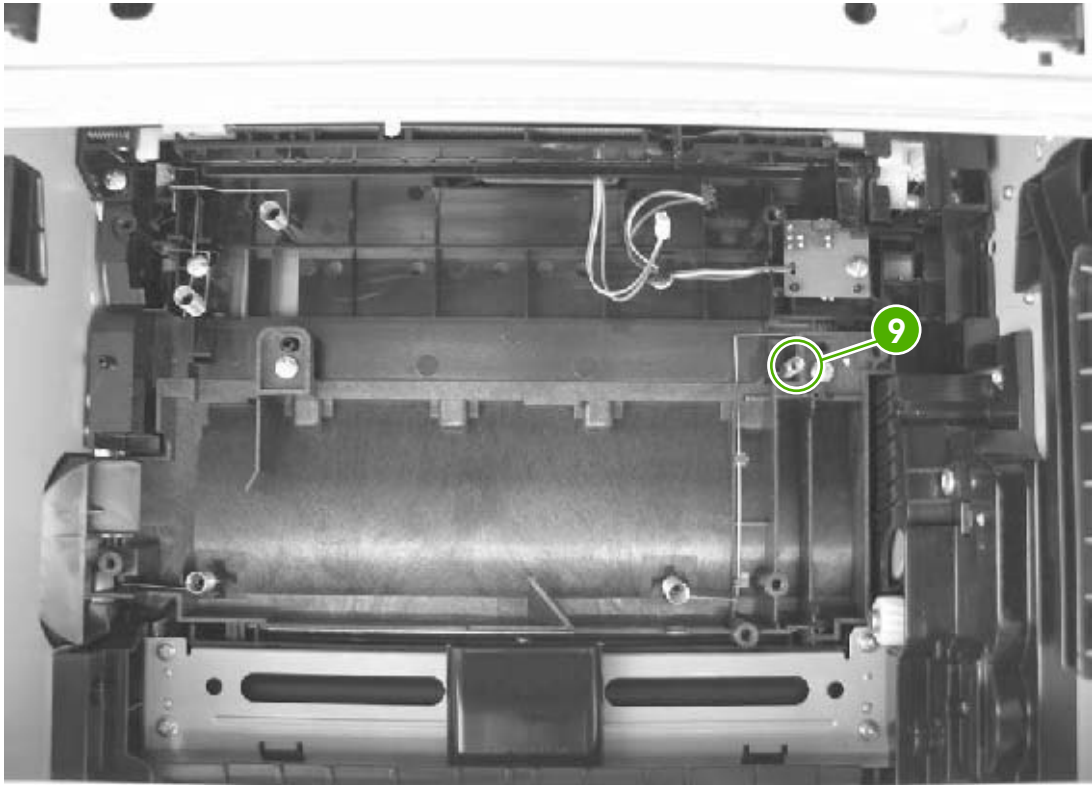

Figure 5-76 Grounding-spring locations
2. Lift one non-captive grounding spring (see callout 9 in Figure 5-76 Grounding-spring locations on page 155) out of the device.